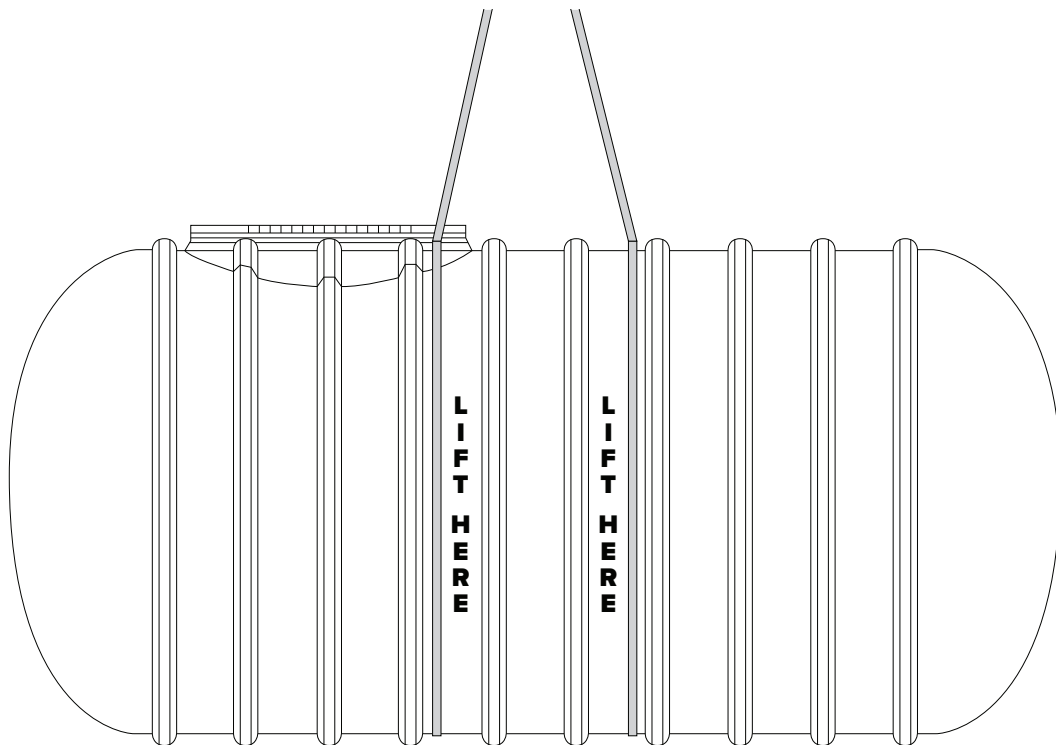

FIGURE 1-1
**Do NOT wrap chain or cable around the tank.** Use suitably rated Flat Slings to move the tank. (See Fig. 1-1). **Use guy ropes to guide the tank when needed. Do not move the tank by rolling.**